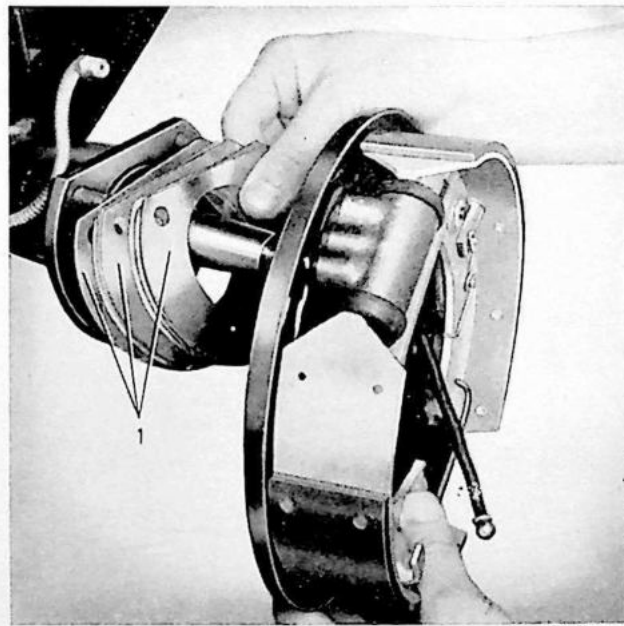

Fig. 21. Fitting brake backing plate.
4. Fit the brake backing plates, see fig. 21, all shims (47) which were taken out when removing and the felt sealing rings (8) on both sides and tighten the bolts (46) for